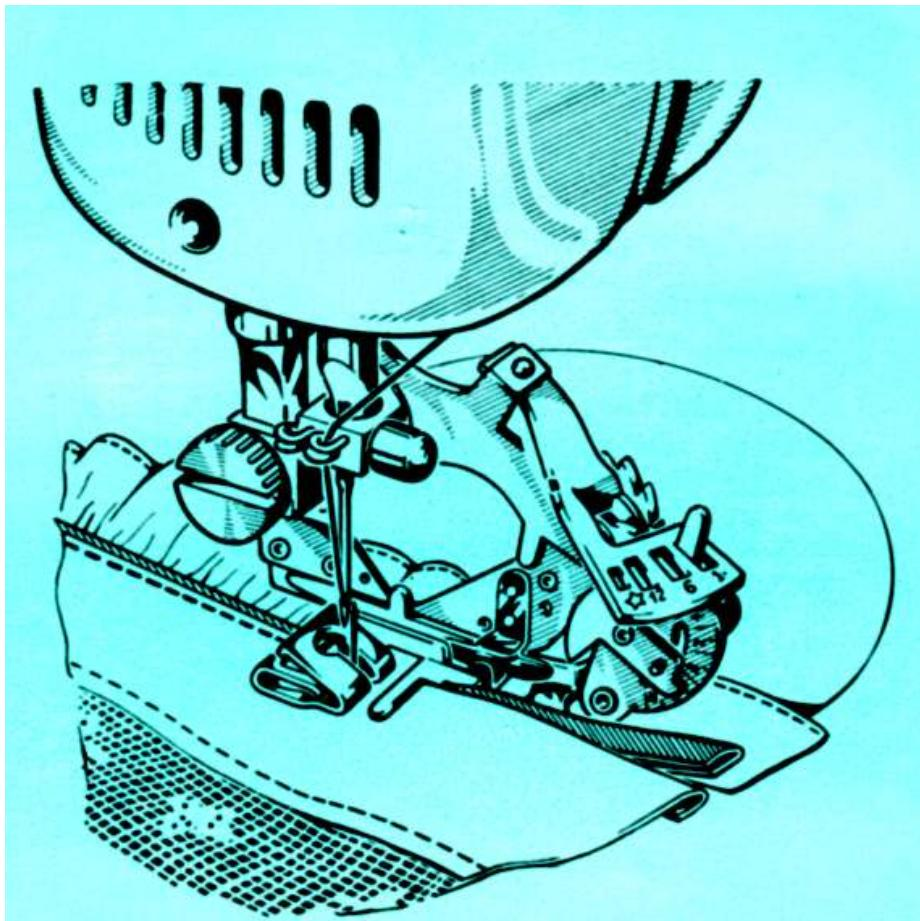

Fig. 23
- 4) Lower presser bar and sew. Fig. 23 shows the procedure described above.